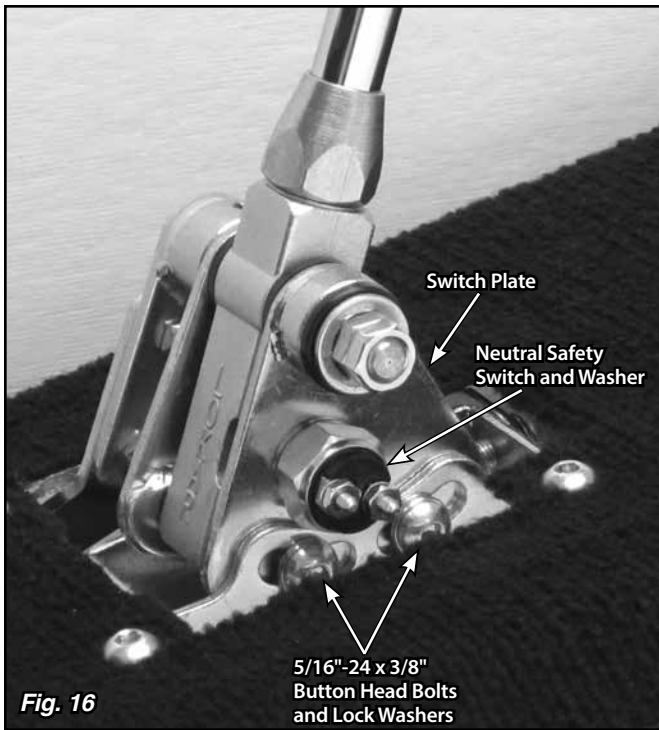

Fig. 16
Step 22: Remove the neutral safety switch and washer (**Fig. 16**) from the passenger side of the Shifter using a 7/8" wrench or socket.
Step 23: Loosen, but do not remove, the two 5/16"-24 x 3/8" button head bolts and lock washers that attach the passenger side of the floor mount mounting bracket to the switch plate (the bolts are in curved, slotted holes). **Fig. 16**